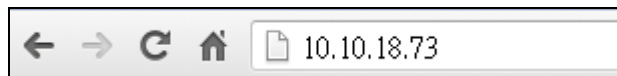

Figure 4-23: IEI iMAN Web Address
Step 2: On the remote management console, open a web browser. Enter the managed system IP address in the web browser (**Figure 4-23**).